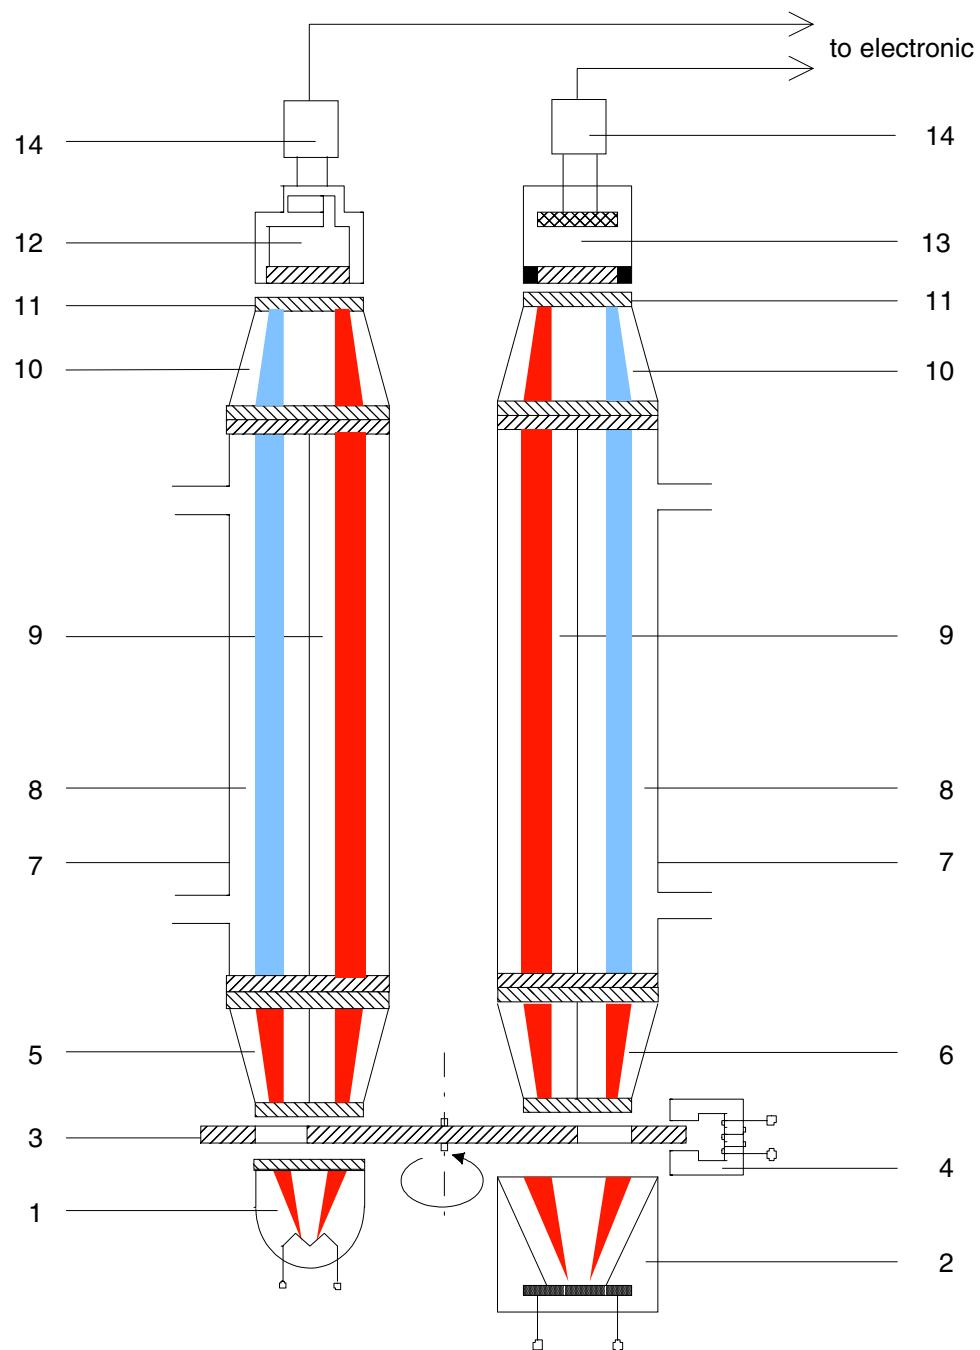

Fig. 2-1: Measuring Principle for NDIR / UV Measurement
The principle photometer assembly is shown in Fig. 2-1.
The photometer assembly is similar to the assembly with "gas detector" (Fig. 2-1) with the exception of the analysis cell. For analysis cell a non-sparated version is used. Behind this analysis cell the radiation passes a second filter cell (10) to the pyroelectrical detector (12). In front of this filter cell there are the individually optical filters.
The absorption measurement in the UV spectral range is based on the same principle as the IR measurement (Fig. 2-1).